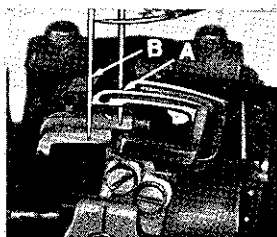

FIGURE 5
As the looper (A, Fig. 5) moves to the left behind the needle, its point should be as close as possible to the needle (B) but not deflect it.